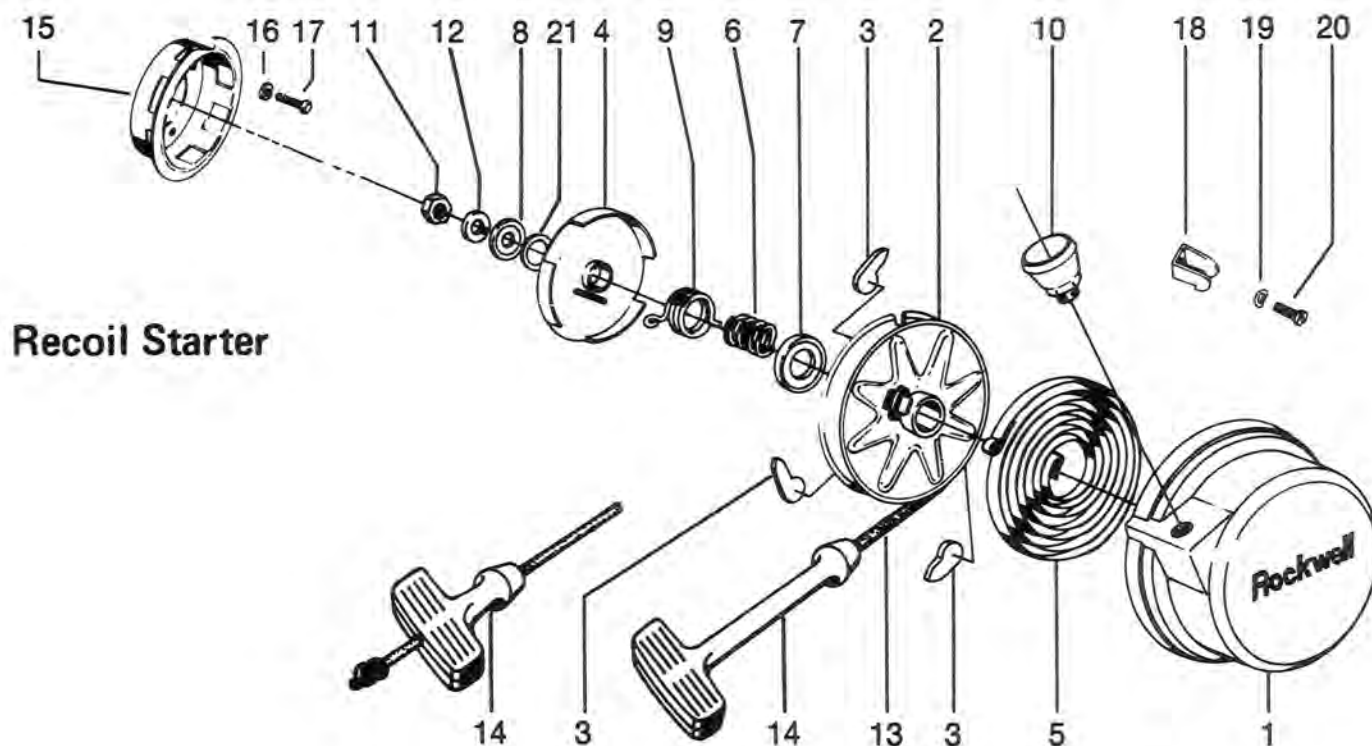

FIG. 1-49
(See Fig. 1-49 for recoil start breakdown, and Fig. 1-50 for Recoil Starter Assembly.)
7. Apply a light film of Lubriplate or equivalent to pawls (6) and install them on the reel in the pawl retainers. (Fig. 1-63). (See Fig. 1-49 for part identification numbers.)
8. Install cup washer (7) flat side down, spring (6) and return spring. Ensure that plain end of return spring is properly engaged in the retaining hole in reel hub.